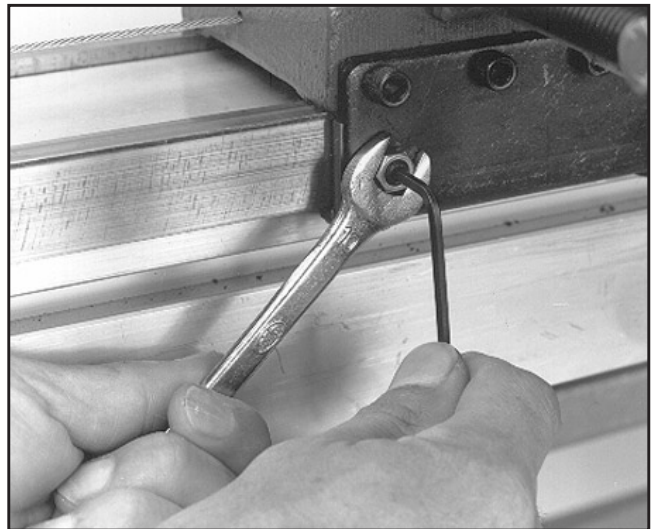

Figure 9. Adjusting the gib tightness.
3. When adjustments are complete, tighten the lock nuts while maintaining the set-screw position with the Allen® wrench. **See Figure 9.** Re-test after tightening.